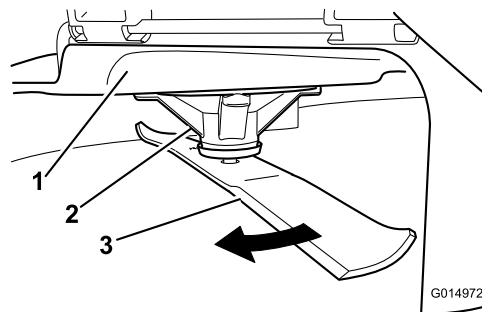

Figure 61
2. While wearing thickly padded gloves, or other adequate hand protection, slowly rotate the blade into a position that allows you to measure the distance between the cutting edge and the level surface the machine is on (Figure 61).